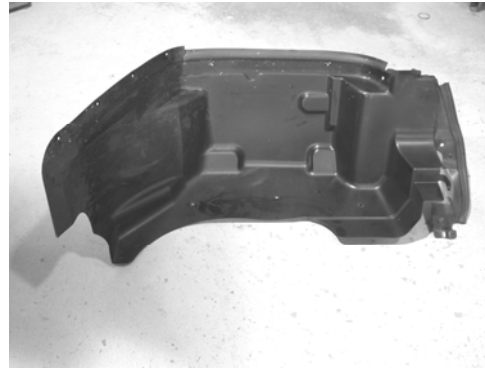

Figure 2
4. To gain better access to the heat shield and manifold bolts, remove both driver and passenger side inner fender wells as the one shown in figure 2 and lift vehicle allowing the suspension to drop.